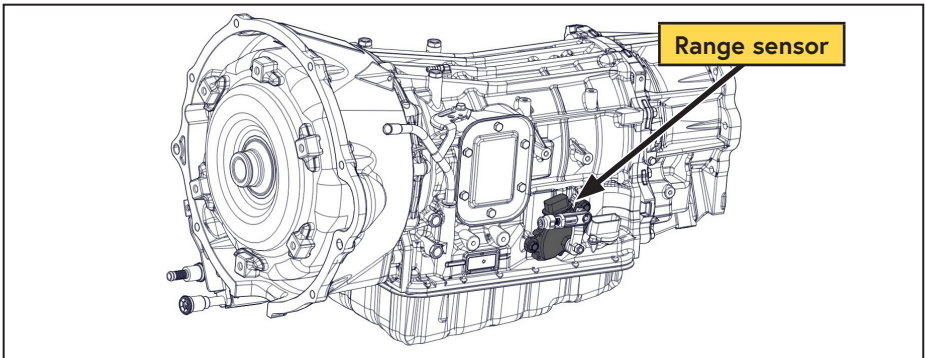

Figure 4 — Locate range sensor
- ☐ Locate the 10 pin connector plugged into the transmission range sensor on the driver side of the transmission (Figure 4).